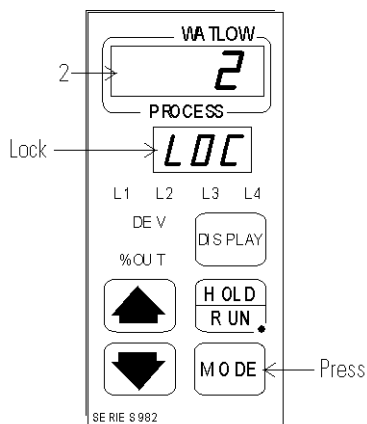
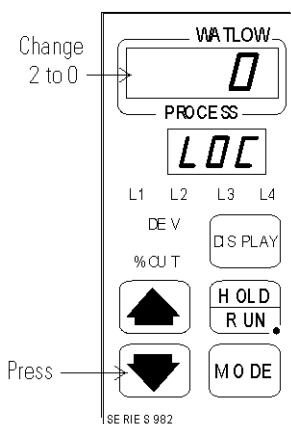

Figure 4-6. 2 and Lock Appear
Figure 4-7. Change 2 to 0
3. Press the Mode key to scroll through the menus until the lower displays show “Loc” (Figure 4-6). Press the Down arrow key until the “2” becomes “0” (zero) as shown in Figure 4-7.